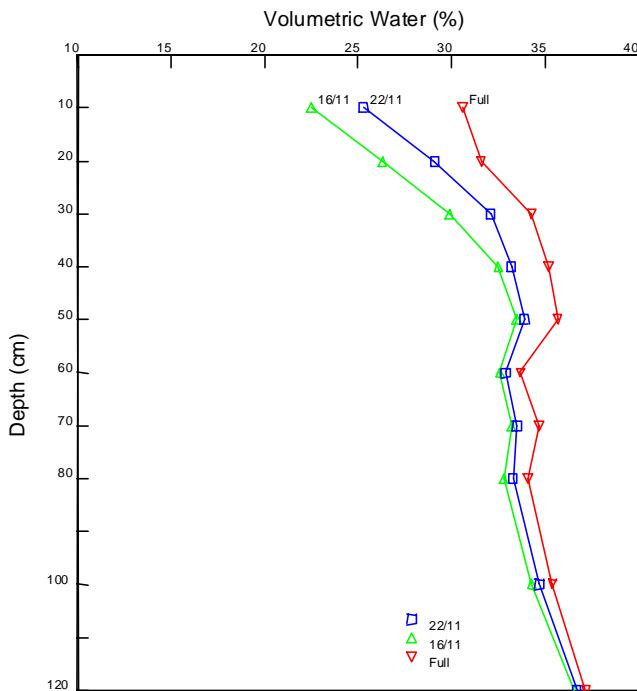

Figure 2. Rainfall Event mid-November
- The fields full point was set after rain in October. (Figure 2.)
- Rain on 21/11 infiltrated the soil to a depth of 50cm, and all seemed O.K. (Figure 2.)